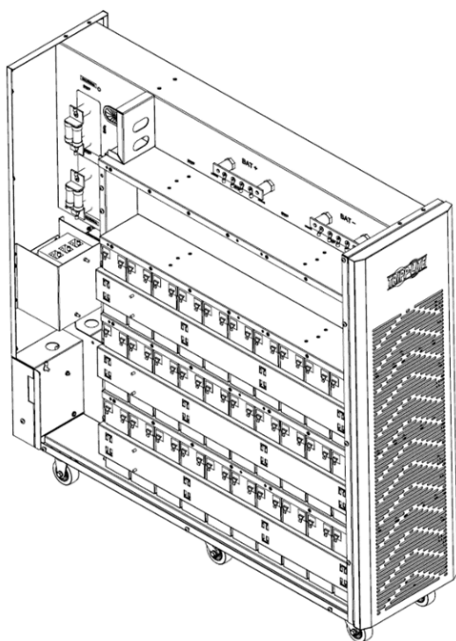

Figure 5-11A
13. Reinstall the right side and left side bracket bars of group 3 batteries (Figures 5-11A and 5-11B).